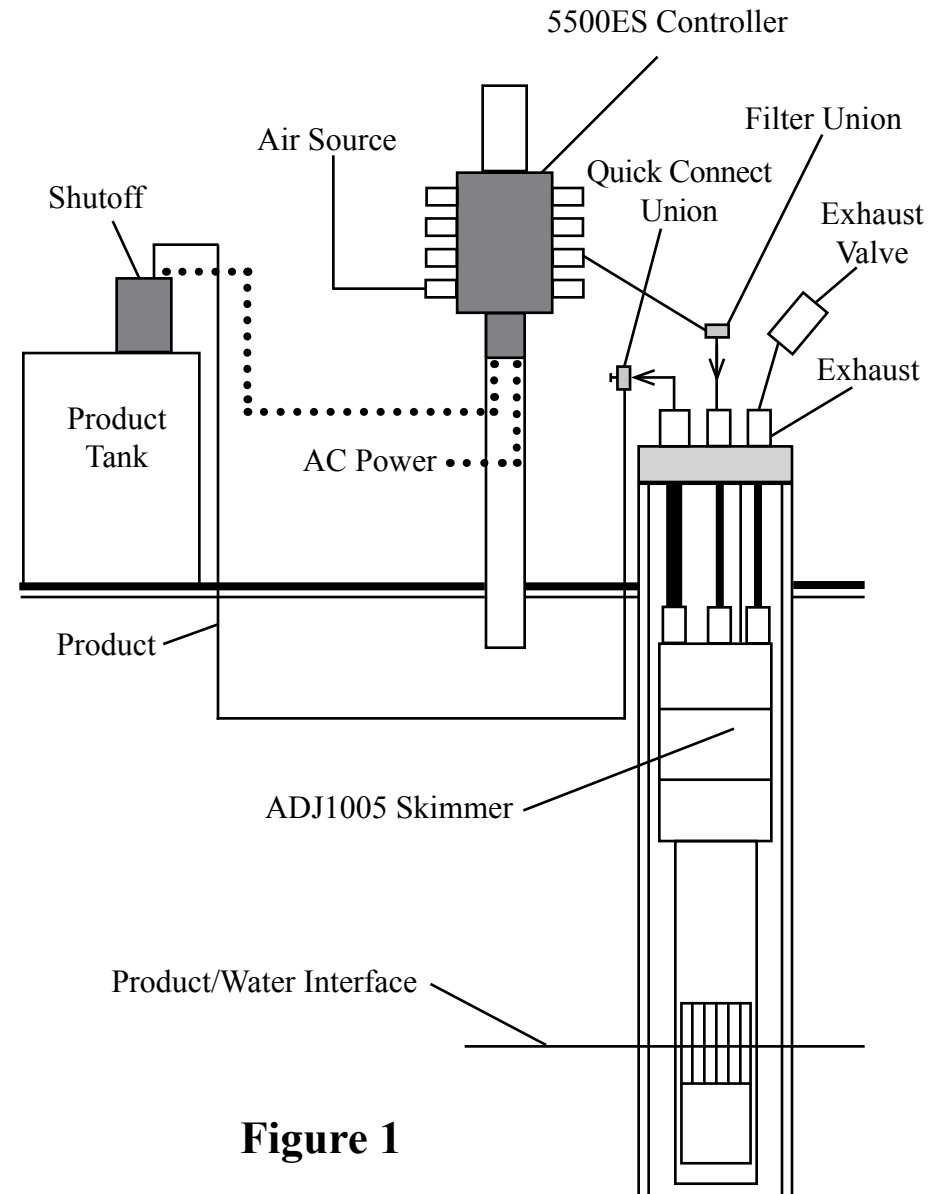
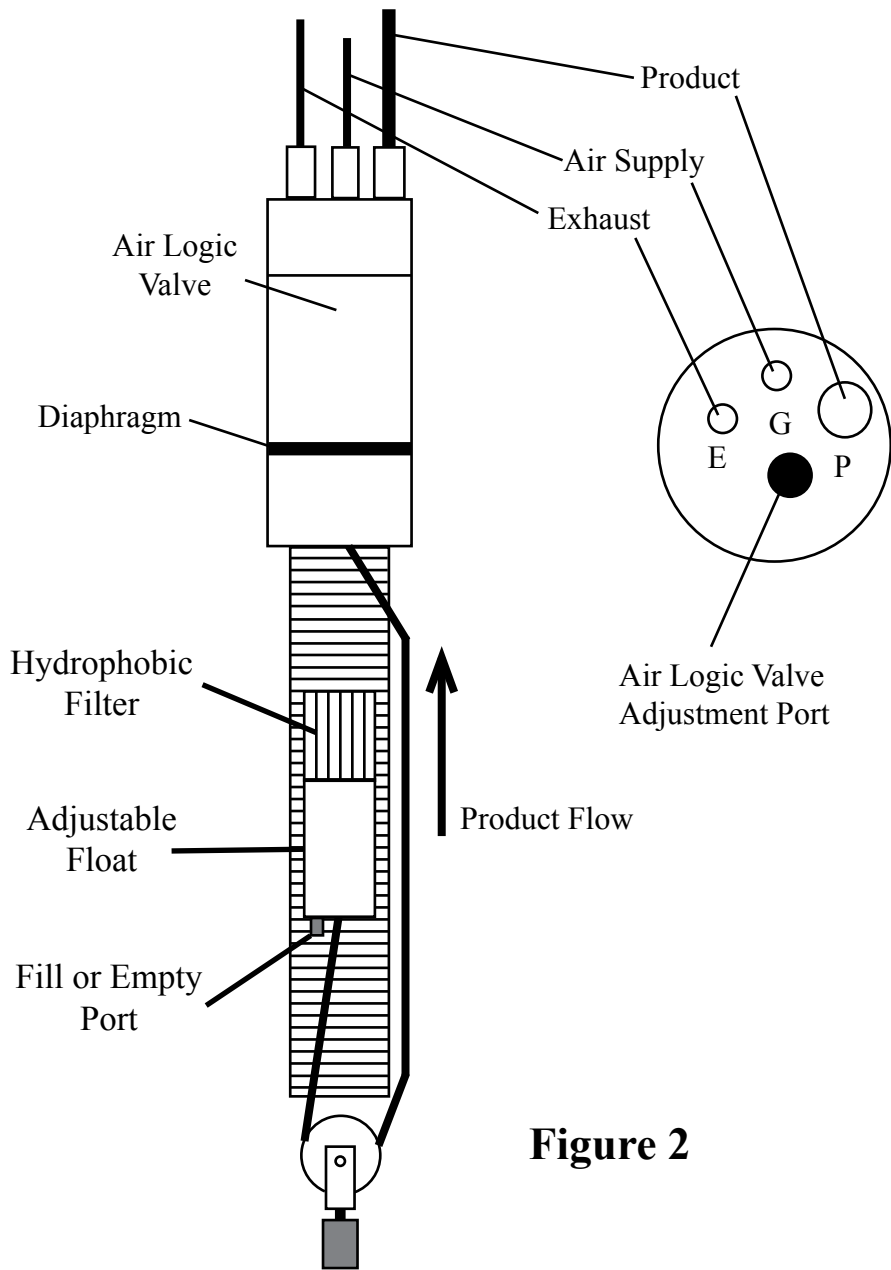

Figure 1
Figure 2
The system (Figure 1) relates to floating hydrocarbon recovery in wells four inches in diameter and larger. This system includes: an intrinsically safe ADJ1005 pneumatic Smart Skimmer, with an adjustable float (Figure 2), which removes only the product to a sheen down to 200 feet deep; and a programmable Controller Model 5500ES which operates up to 16 skimmers intermittently, records run time, and has a high level tank shutoff assembly.
STEP 7. Position the skimmer and well cap on the ground near the well. **NOTE:** If the skimmer is over 60 feet deep, use a vented design skimmer. Cut a length of 3/8" OD air supply tubing to cover the distance from the top of the well down to water/product interface, plus 5 feet. Slide enough tubing through the well cap and attach the end of the tubing to the top of the skimmer tube fitting labeled "G" (Figure 2). If the product thickness is greater than 1 foot, position the skimmer's "Black Reference Line" on skimmer well screen 1 foot below top of product. If the product thickness is less than 1 foot, position the skimmer's "Black Reference Line" on skimmer well screen at the water/product interface.
STEP 8. Cut a length of 1/2" OD product tubing same length as the air supply line. Install 1/2" OD product tubing through the well cap tube fitting labeled "P" (Figure 2). Slide enough tubing through the well cap and attach the end of the tubing to the top of the skimmer tube fitting labeled "P". **CAUTION:** Do not kink the tubing.